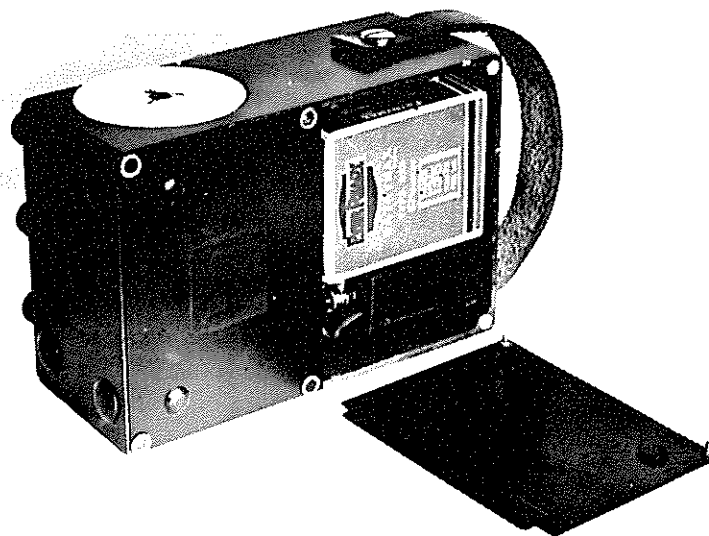

FIG. 12
8. Switch in Posn. 4 (Measurement of insulation-resistance—ohms \times 100).—The meter scale is calibrated from 0 to 50,000 ohms; the reading with the switch in this position is multiplied by 100 to obtain the actual value of the resistance measured. The accuracy of the meter is least at the extremes of the scale but can be relied upon for all normal measurements between 5,000 and 500,000 ohms; for resistances below 5,000 ohms, the lower scale should be used. [Before making a resistance measurement, it is first necessary to check the 'zero ohms' reading. This is done by short-circuiting the terminals B and A on the tester and then turning the milled disk (on the side of the tester, see Fig. 12) until a full-scale deflexion is obtained. This adjustment should not be confused with the screw adjustment which is used to set the meter pointer in the 'zero' position at the left-hand end of the scale]. The insulation-resistance between the A and B lines may then be obtained by connecting the A and B terminals of the tester to the apparatus, or line, to be tested.
17. **Batteries.**—The back of the tester case is constructed in two halves: the lower half, which is behind the instrument controls, is sealed and *must not be opened by a faultsman*. The upper half, behind the instrument, encloses the batteries and access is gained by removing the two screws at the top of the case nearest the handle fixture (see Fig. 12). A battery should be changed when the voltage is insufficient to give a full-scale deflexion on the 'zero ohm' adjustment.